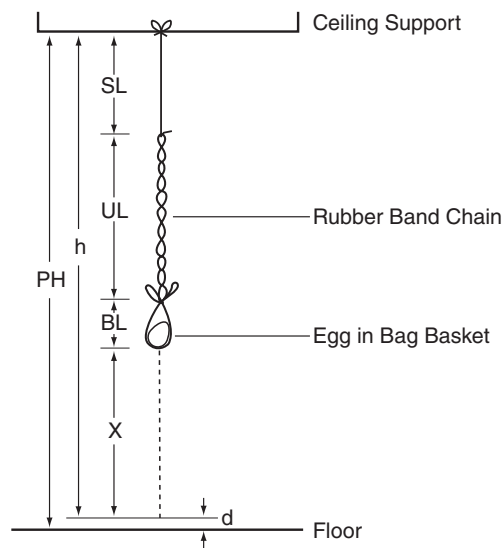

Figure 1.
In order to determine the appropriate length of string needed to make the bungee cord long enough for a safe and exhilarating ride, five quantities are needed—(1) the total height of the jump that is desired, (2) the initial length of the unstretched rubber band chain, (3) the spring constant of the rubber band chain, (4) the mass of the egg, and (5) the length of the basket (see Figure 1). The total height of the jump (h) is the height above the ground at which the jump begins (PH) minus the separation distance between the egg and the ground at the bottom of the ride (Equation 1).
11. Tie the sandwich bag closed with a free end of the rubber band chain. Use the same “looping knot” that was used to link the rubber bands together to connect the bag to the chain (Figures 1 and 2).